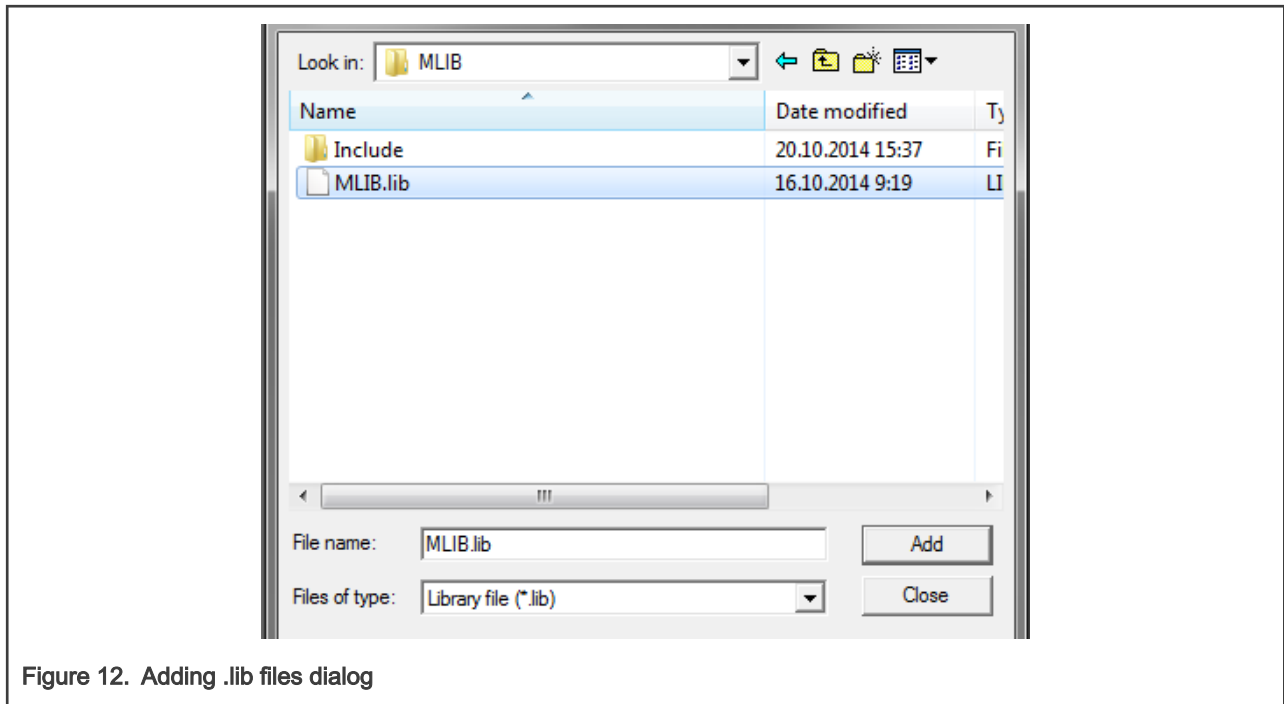

Figure 12. Adding .lib files dialog
- Navigate to the parent folder C:\NXP\RTCESL\CM4_RTCESEL_4.7_KEIL\MLIB, and select the *mllib.lib* file. If the file does not appear, set the Files of type filter to Library file. Click Add. See Figure 12.